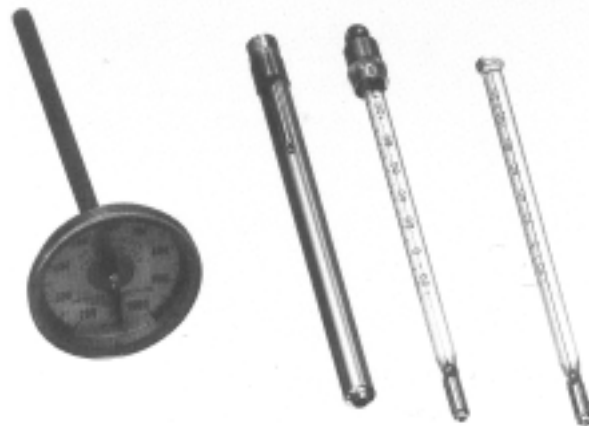
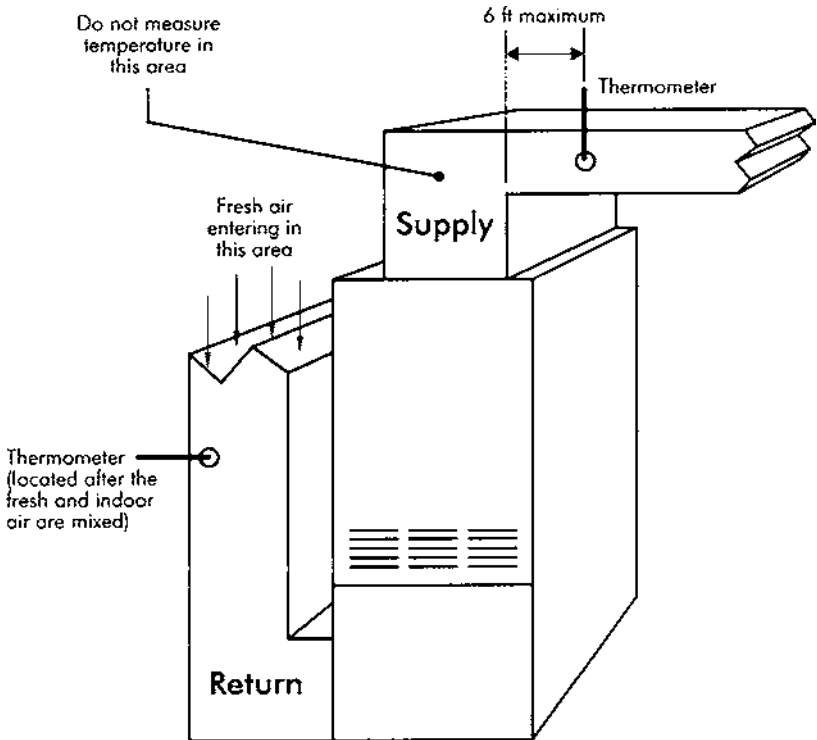

Figure 2-1. Dry bulb thermometers (Courtesy, Dwyer Instruments, Inc.)
Figure 2-2. Measuring circulating air temperature
A dry bulb (db) thermometer is used for checking air temperatures, Figure 2-1. Determining the temperature rise of the air as it passes through the heating unit is a very important step in the fine tuning process. The dry bulb temperature is a measure of the heat absorbed from the heating elements by the air. The air temperature is measured in two locations: the return air stream and the discharge air stream, Figure 2-2. Be sure to take the temperature readings after the mixing of any air and within 6 ft of the air handling unit. The thermometers must be placed where the radiant heat from the elements cannot be measured by the thermometer. Radiant heat can cause a faulty temperature reading and an incorrect test.
- c. Measure the temperatures at a point where the thermometer cannot "see" the heat source (see Figure 2-2). True air temperature cannot be measured when radiant heat is sensed by the thermometer.
- d. The air temperature measurements must be taken within 6 ft of the air handling unit. The return air temperature can be taken at the return air grille if it is located close to the unit, as in Figure 2-2. The air temperature taken at the supply air grille is not usually accurate enough for this purpose.
- e. When more than one discharge or return air duct is connected to the plenum, use the average temperature (AT). For example, Duct 1 = 115°F, Duct 2 = 110°F, and Duct 3 = 108°F. Use the following formula:
- Do not measure the temperature in an area where the thermometer can sense the radiant heat from the heat strips (see Figure 2-2). True air temperature cannot be measured if the thermometer senses radiant heat.